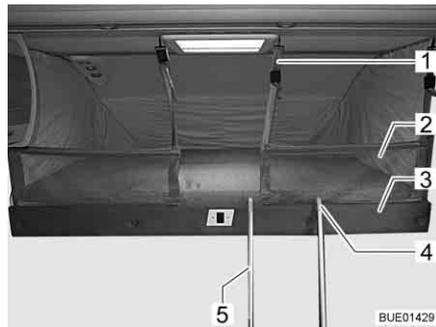

Fig. 136 Pull-down bed complete with applied safety net
**Safety net** If fitted, the safety net (Fig. 136,2) and the retaining belts are located beneath the mattress of the pull-down bed. Only use the safety net if persons are already in the pull-down bed.
*Setting up:* ■ Attach retaining belts (Fig. 136,1) to the hooks on the ceiling.
- Hook step ladder (Fig. 136,5) to the pull-down bed by attaching the two hooks (Fig. 136,4) in the holding bar (Fig. 136,3).